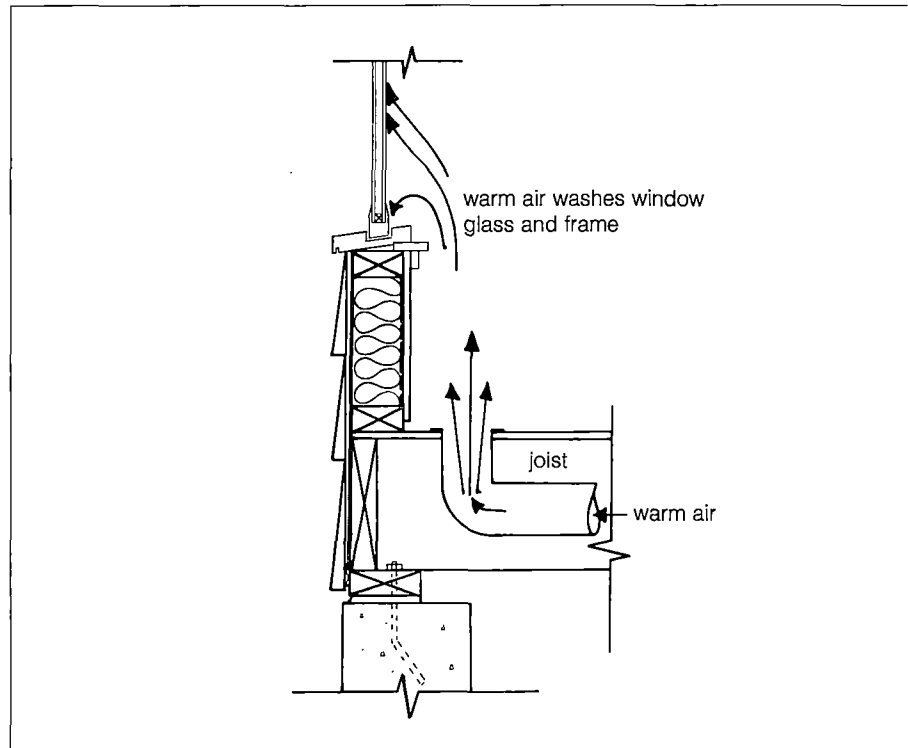

Fig. 35. Circulation of warm air
*The circulation of warm air aids in keeping the surface temperature of window and frame warmer. This reduces the potential for condensation (fig. 35).*